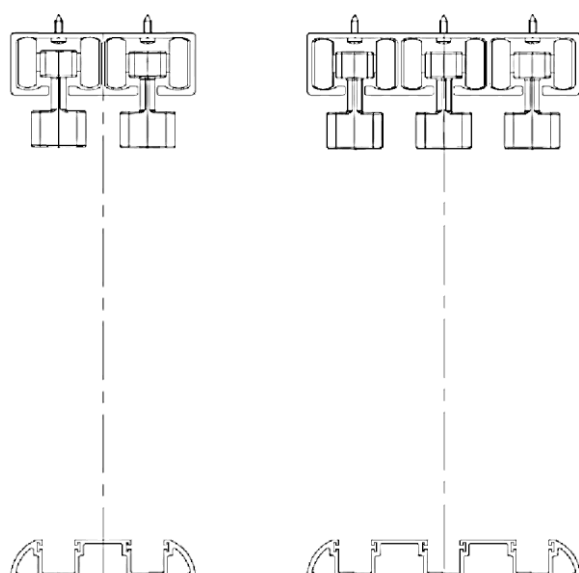

Fig. 4
4. Verify that the surface for the bottom rail is level. Lay the bottom rail on the stable floor, perfectly aligned with the top guide rail. The maximum vertical clearance between the substructure surfaces for the top guide rail and the bottom rail cannot be higher than 3200 mm (Fig. 4).